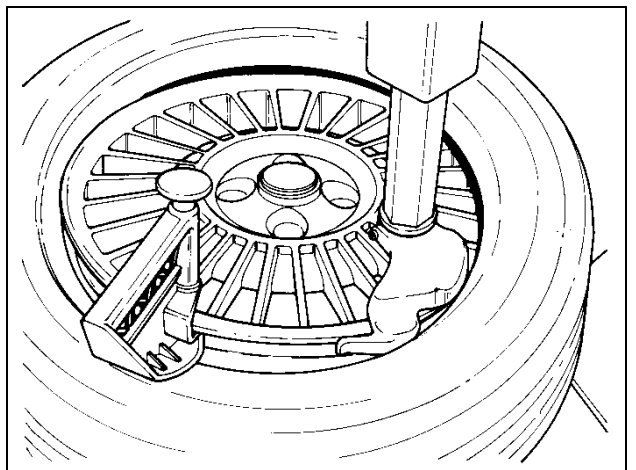

Fig.25
C. Mount the upper bead following the directions in section B. With low profile tires the bead depressor tool (option #4003444 Fig.25) can help to ease the mounting of the top bead.